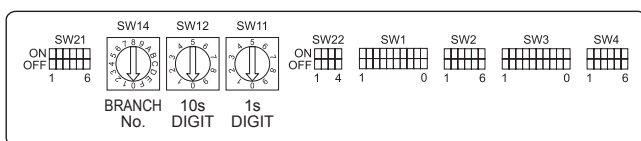

Fig. 5-9
5.5. Setting addresses (Fig. 5-9)